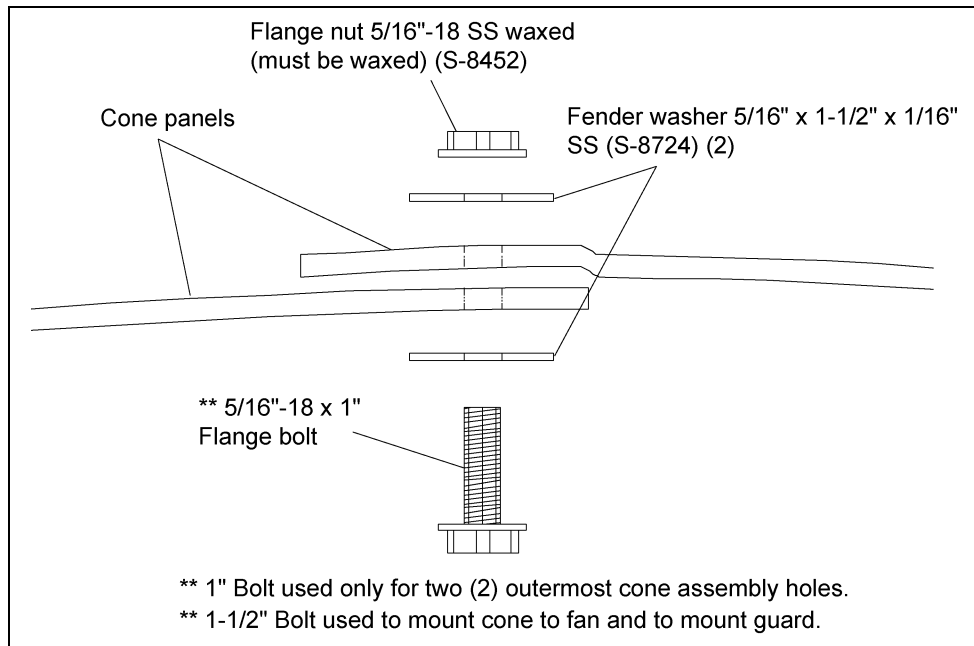

Figure 9B
See cone assembly detail in Figure 9B below. Partially assemble the cone on the ground by using only the outermost two (2) holes per overlap (six (6) total). Use the 1" bolts, fender washers and flange nuts, leaving bolts loose.